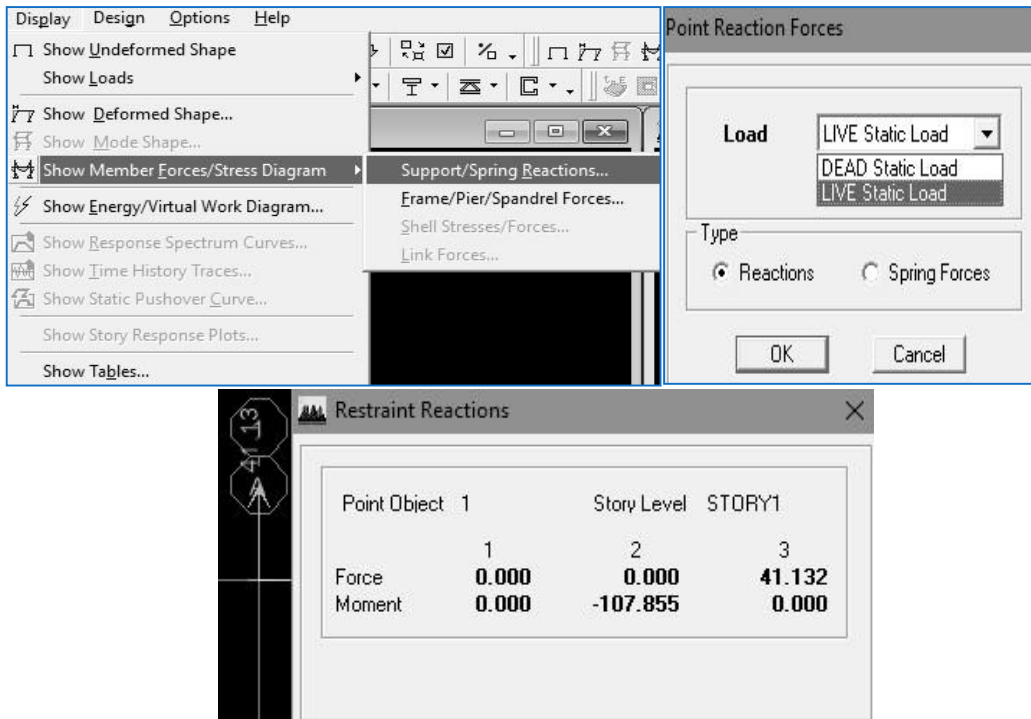

Fig: 2.9
6.1. **For Support Reactions:** Go to display → Show Member Forces/Stress Diagram → Support/Spring Reactions → Select Load (Live/Dead etc.) → OK → Select the Support point by click (from the display elevation view) → press mouse right button and find out your desirable values like vertical force, horizontal force and moment. (Fig: 2.9)